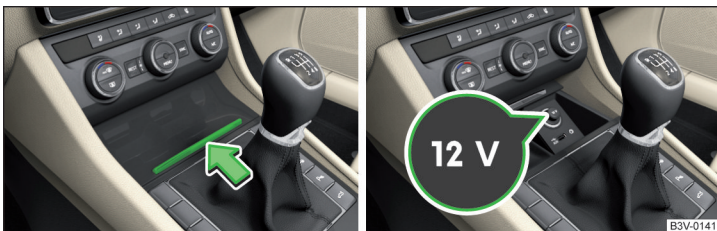

Fig. 112 Open storage compartment / cover of the 12 volt power outlet
- Open the storage compartment by pressing on the edge of the cover in the direction of the arrow » Fig. 112.